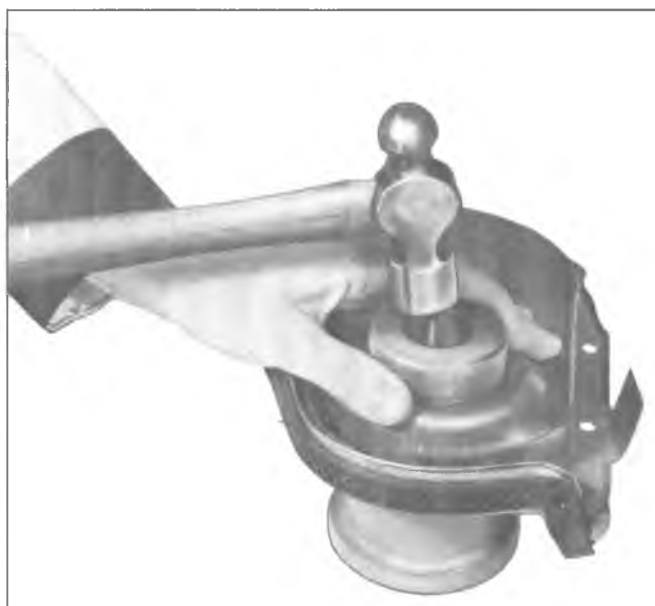

Fig. 13L—Installing Oil Seal (Cover Removed)
2. Install new seal so that open end of the seal is toward the inside of cover, and drive it into position with Tool J-23042 (fig. 13L).